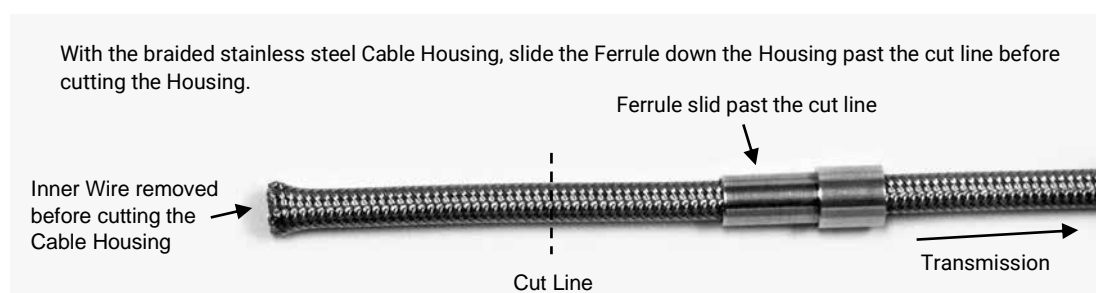

Figure 6
6. Route the cable housing up to the kickdown cable adjuster. Make sure that the inner wire is removed from the cable housing! Fig. 6 **DO NOT remove the ferrule from the braided stainless steel housing!**